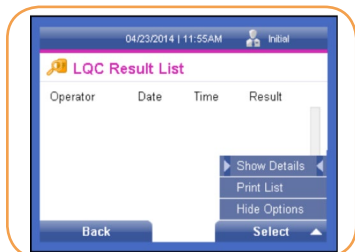

FIGURE 82
1. From the *LQC Result List* screen, press the right soft key to display the Options menu (Figure 82).